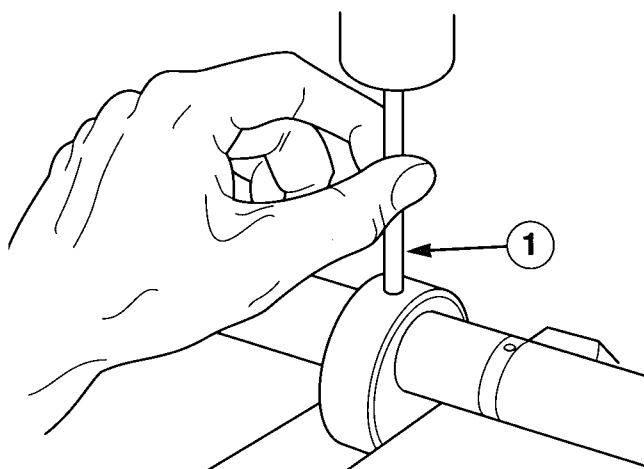

Figure 40 — Removing spring pin. (1) Pin Punch.
11. **Hold eccentric in vise** and drive spring pin out with pin punch (Figure 40). Slide shaft out of eccentric. The cam hub on the 22 knife spindle shaft is removed in the same way.